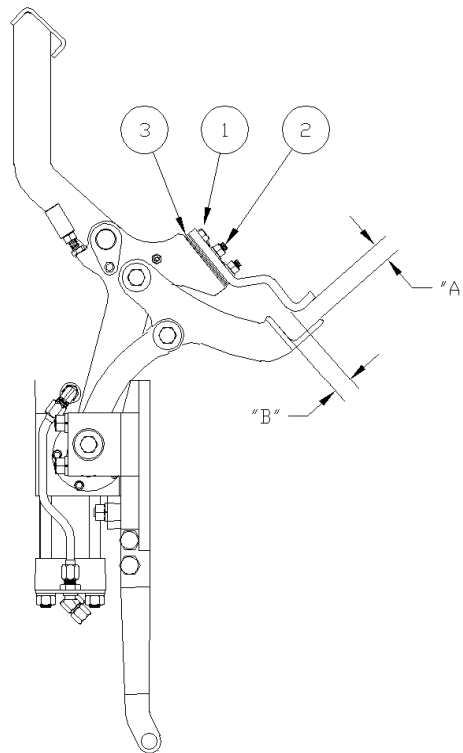

figure O-2
Check the distances (*figure O-2*) between the finger bar and the clamp bar when the lifter faceplate is in the **FULL DUMP** position. Maintain these dimensions at approximately $7/8$ " for the proper "locking" of the cart to the lifter. To adjust these settings, remove the nuts (1) and bolts (2) that hold finger bar. Add or remove finger bar shims (3) to obtain the correct dimension of approximately $7/8$ " at (**B**). Use the slots in the finger bar to obtain the correct dimension of approximately $7/8$ " at (**A**). Replace the bolts (2) and tighten the nuts (1). The object of these adjustments is to properly hold container without excessive force.
CAUTION: *The distance in figure O-2 is an arbitrary figure based on information furnished by cart manufacturers. It is the responsibility of the owner / operator of this equipment to adjust these dimensions to be compatible with his specific application.*